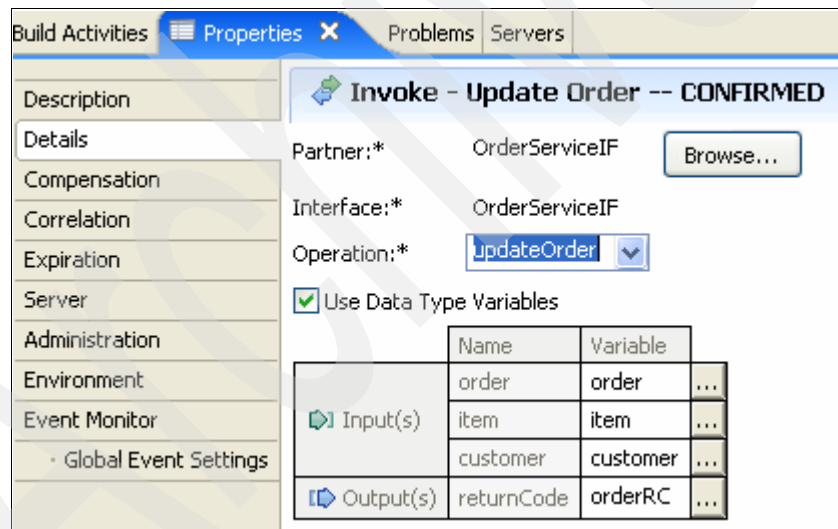

Figure 3-173 Invoke Update Order -- CONFIRMED
3. Right-click **ConfirmOrder**. Select **Add** → **Invoke**. Then, name the Invoke Update Order -- CONFIRMED, and set the Invoke's details as shown in Figure 3-173.